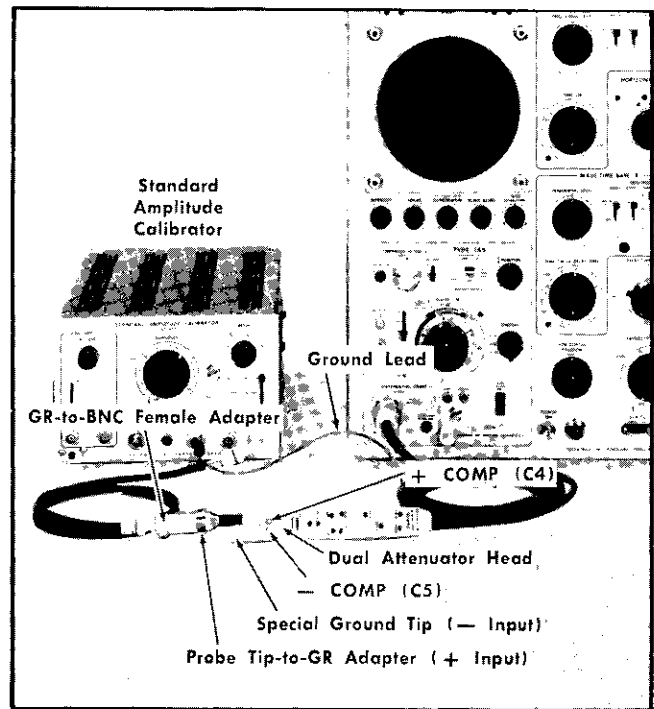

Fig. 6-19. Equipment setup for Dual Attenuator Head AC compensation, step 11.
11. Adjust Dual Attenuator Head AC Compensation (+ COMP — COMP) ①
a. Preliminary control settings apply. The equipment setup and adjustment locations appear in Fig. 6-19.
i. ADJUST— + COMP (Fig. 6-19) for optimum squareness at the upper left corner of the square wave. ± 0.1 div or less rounding, overshoot or tilt.
l. ADJUST—Attenuator — COMP (Fig. 6-19) for optimum squareness at the lower left corner of the square wave. ± 0.1 div or less rounding, overshoot or tilt.